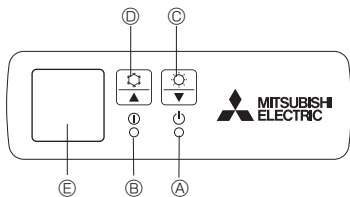

Fig. 5-1
- [Fig. 5-1] ① DEFROST/STAND BY lamp (Orange)
② Operation lamp (Green)
③ Emergency operation switch (heating)
④ Emergency operation switch (cooling)
⑤ Receiver